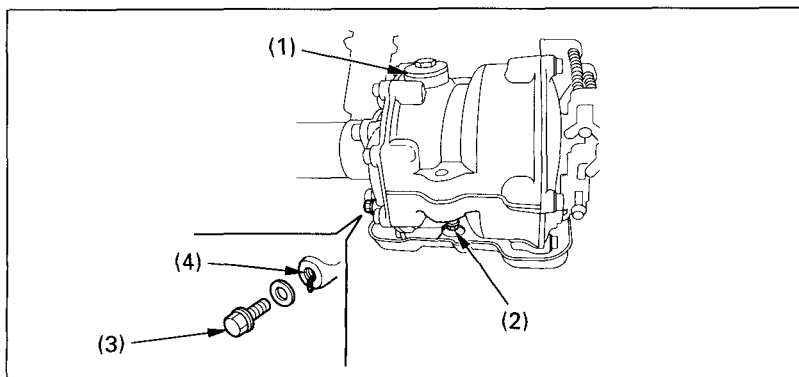

Fig. 4-13
1. To drain the oil, first place an oil drain pan under the oil drain plug (Fig. 4-13).
2. Remove the oil filler cap (1) and the drain plug (2).